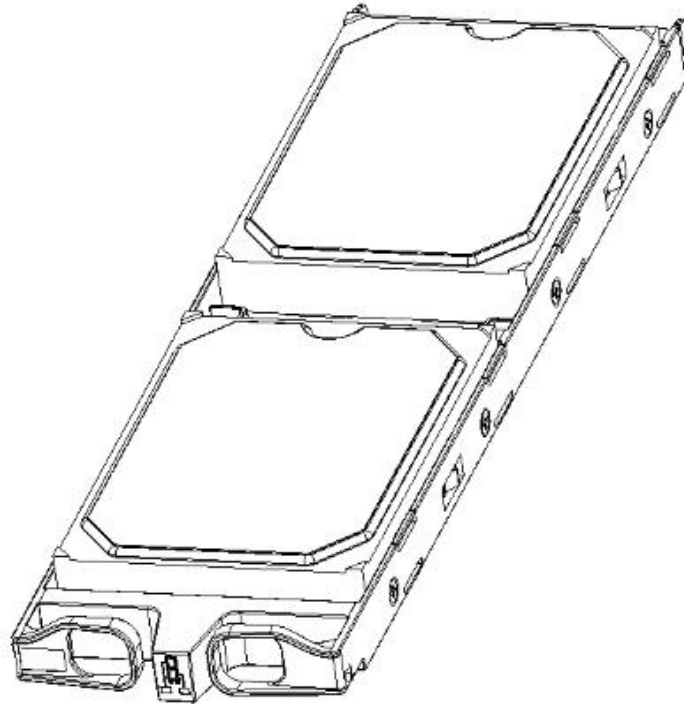

Figure 4-3 Disk appearance
- The disk is already installed with structural components when it leaves the factory, hereinafter it will be referred to as an “integrated disk”, as shown in Figure 4-3. The disk mentioned in the following installation steps is an integrated one.